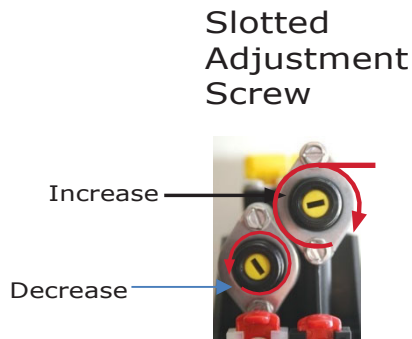

Fig. 4.1
- B. To adjust flow control assembly adjust the slotted yellow screw (Fig. 4.1). To regulate flow, turn clockwise to increase flow and counterclockwise to decrease flow. If the flow control assembly contains a Phillips green adjustment screw, it is mechanical module. To regulate flow, turn counterclockwise to increase flow and clockwise to